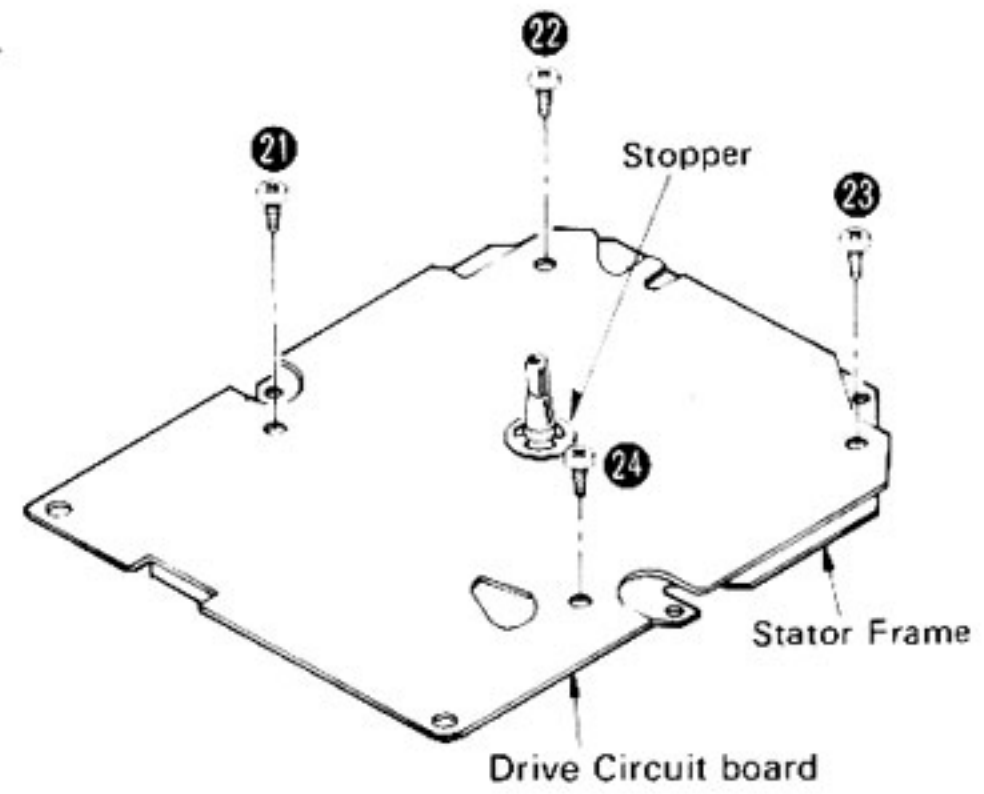

Fig. 7
4. Cut off the stopper by nippers and remove the 4 setscrews (Fig. 7: ㉑~㉔) to separate the drive circuit board and stator frame.